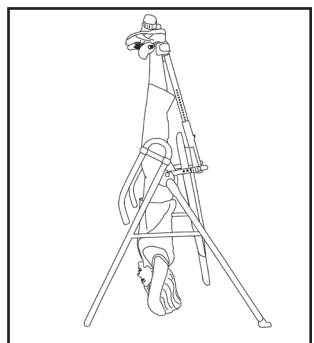

Figure 11
- From a balanced position on the table, slowly raise both hands over your head to begin rotation. You may need to assist the last few degrees of rotation by pushing on the floor or A-frame until the table pulls away from your back. In your correct balance setting, your weight will keep the table "locked" in this position until you are ready to return upright (Figure 11).